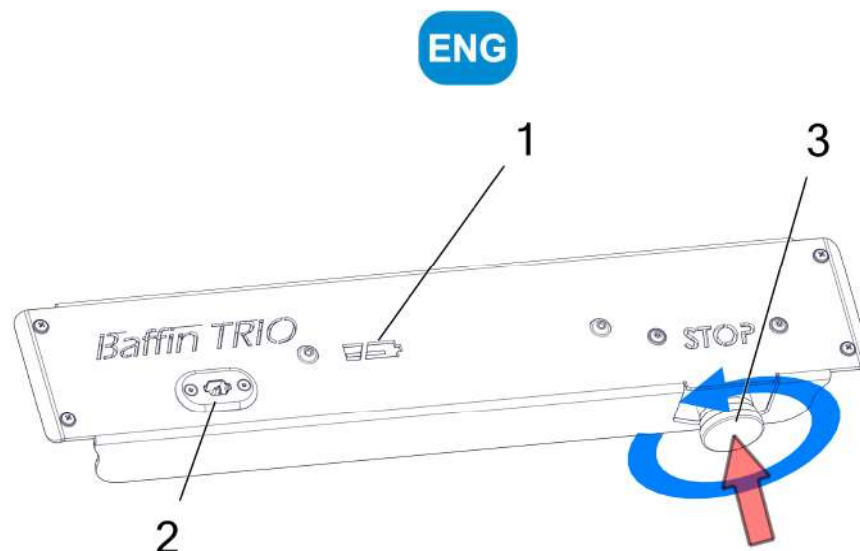

Fig. 41
- Observation of the battery charging level, by controlling the change of the control lamp color – (Fig. 41) the number 1 marker.
- Connection of the charger to the battery – (Fig. 41), power outlet number 2.
- Emergency stop of the device with the emergency switch, which cuts off the power source from the device – (Fig. 41) the switch marked by number 3.
ATTENTION! THE OPERATION OF THE REMOTE CONTROL COULD BE ADDITIONALLY BLOCKED BY PUSHING THE EMERGENCY SWITCH BUTTON JUST LIKE ON THE Fig. 41, MARKED WITH RED POINTER. IT IS ADVISED FOR ONE TO BE PRESSED DURING THE ADJUSTING THE PATIENT AND REGULATING THE DEVICE, TO PREVENT UNCONTROLLED MOVEMENT OF THE DEVICE. UNBLOCKING THE EMERGENCY SWITCH IS BEING DONE BY TWISTING THE BUTTON TO THE DIRECTION COUNTERCLOCKWISE.